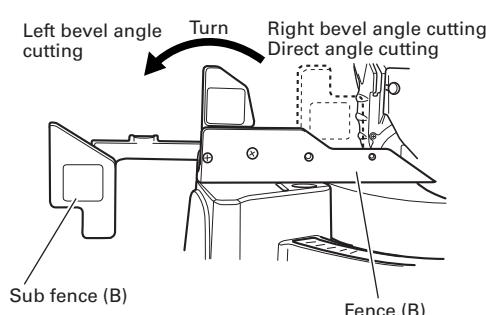

Fig. 12
This power tool is equipped with a sub fence (B). In the case of direct angle cutting and right bevel angle cutting, use the sub fence (B). Then, you can realize stable cutting of the material with a wide back face. In the case of left bevel cutting, raise the sub fence (B) up as illustrated in Fig. 12 and turn it counterclockwise.